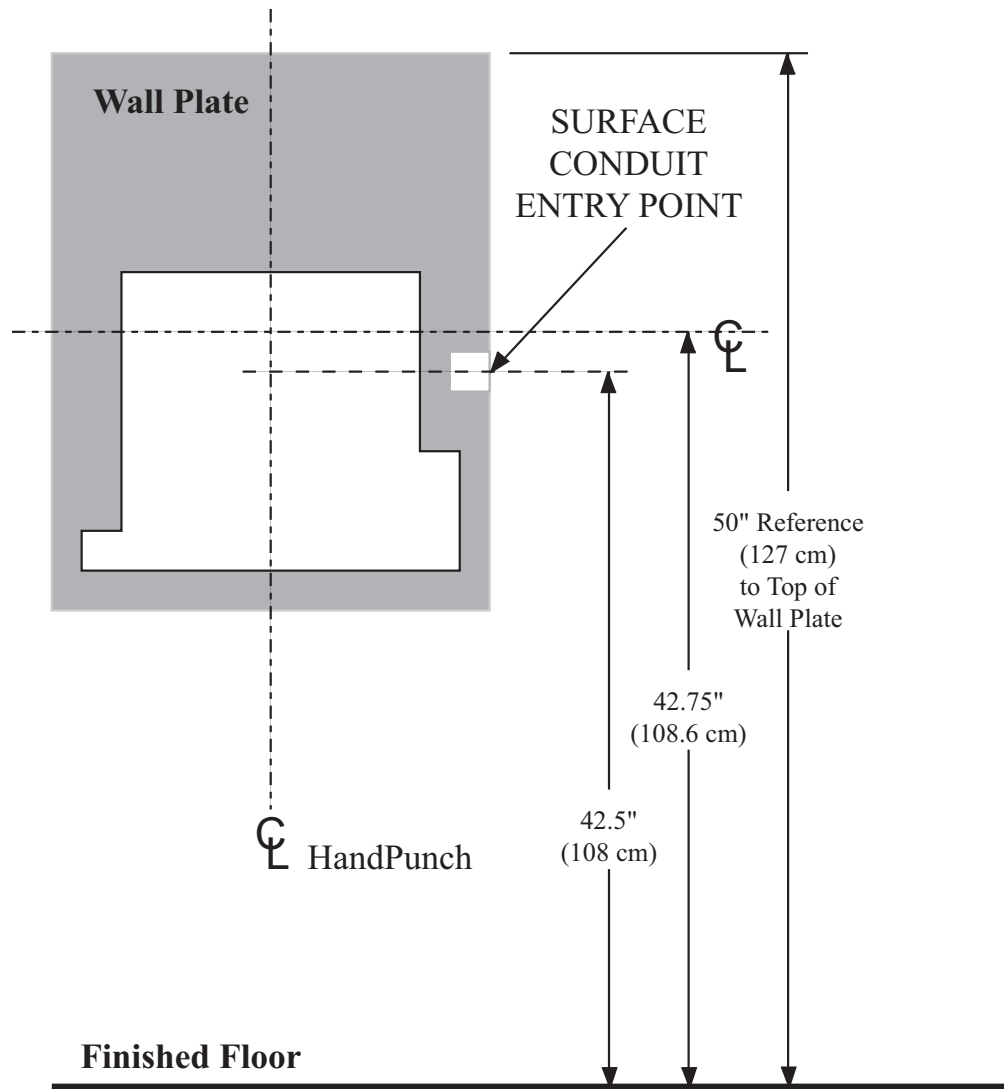

Figure 12-2: HandPunch Wire Routing Layout
1. Refer to Figure 12-2 on page 45 for a template diagram to assist in routing wiring.